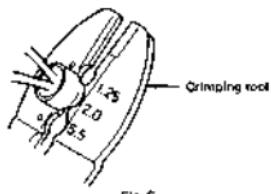

Fig. 6
- (4) As shown in Fig. 6, use the crimping tool to crimp the metal sleeve at the center position. Be sure to crimp fully to the complete closure of the seal.